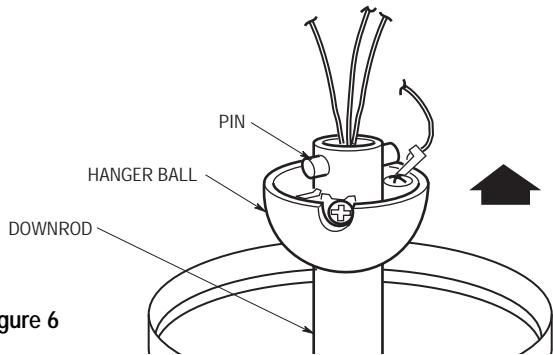

Figure 6
9. Reinstall the hanger ball on the downrod (Figure 6) as follows. Route the motor leads through the hanger ball and slide the hanger ball over the downrod. Install the pin through the holes at top of the downrod and slide the hanger ball up the downrod, aligning the ball so the pin is captured in the groove in the top of the hanger ball. Pull the hanger ball up tight against the pin and securely tighten the setscrew in the hanger ball. A loose setscrew could create fan wobble.